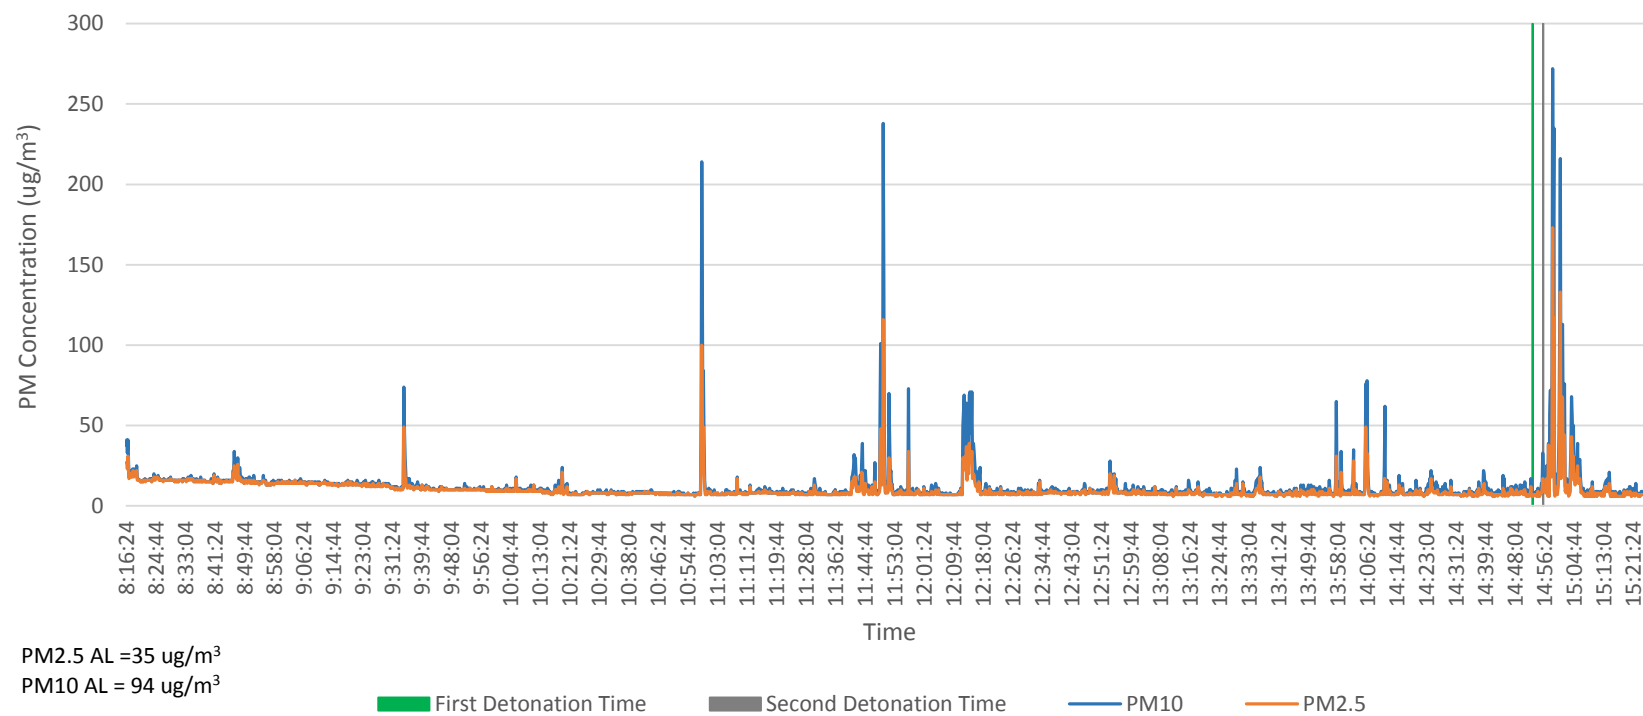

Figure 3-11. PM2.5 and PM10 on 8/11/17 at the Fence Line Boundary Monitoring Point
- Figure 3-11. PM2.5 and PM10 on 8/11/17 at the Fence Line Boundary Monitoring Point - Waterford